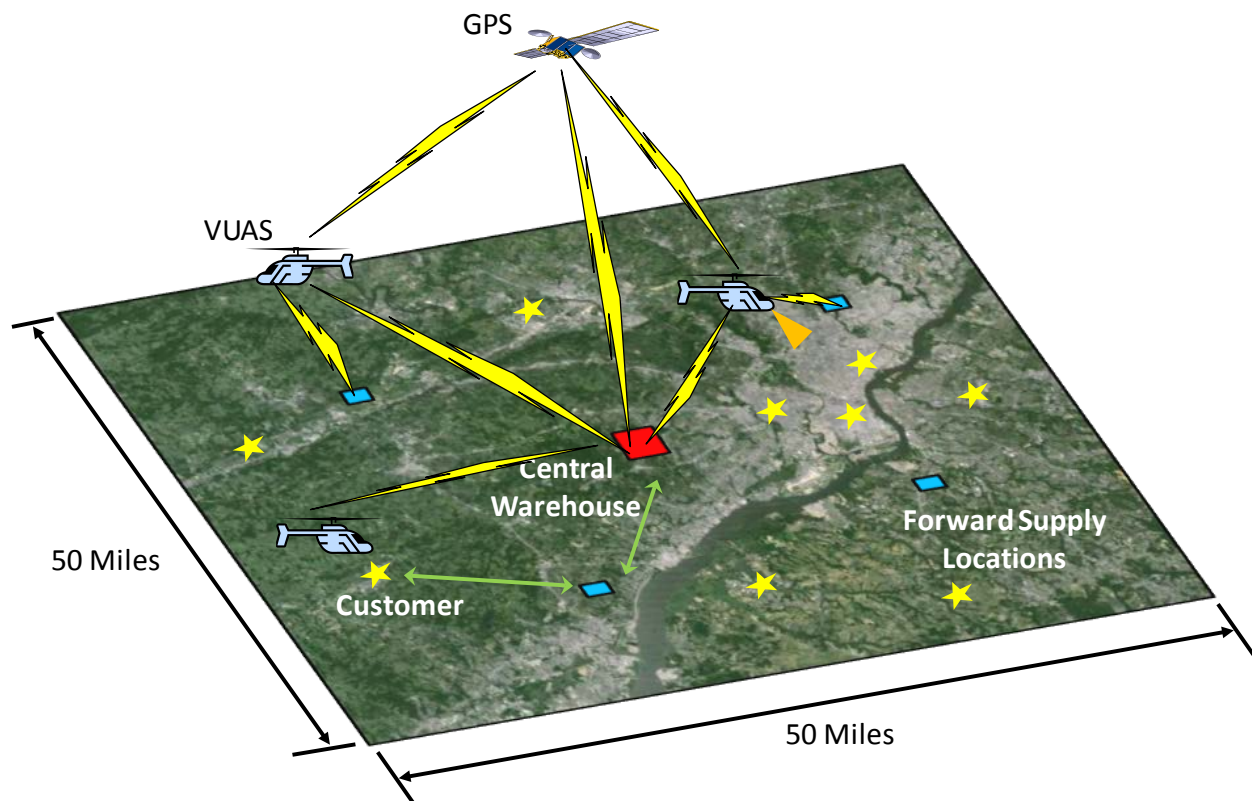

Figure 2: OV-1
2.2.2.1 Concept of Operations. An overall concept of operations (OV-1) is provided in Figure 2.